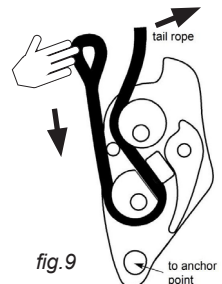

fig.9
**To ascend** - Quadra should be in reduced friction configuration - lift body weight by pulling on the anchor rope with left hand, while simultaneously pulling the tail rope up through Quadra with right hand (fig.9).
Quadra should be in reduced friction configuration - gently squeeze the handle with one hand, while pulling the load rope out through Quadra with the other hand (fig.9).